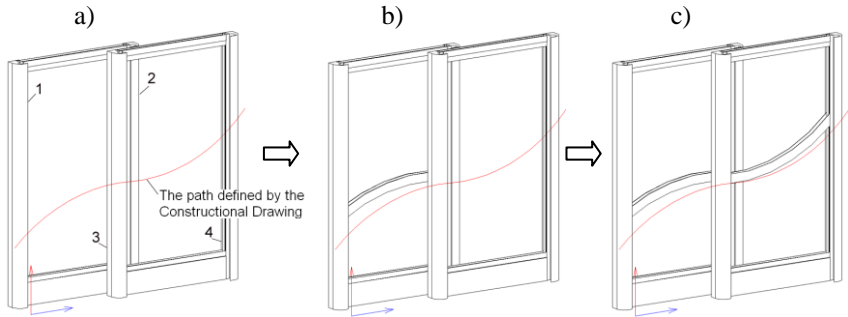

Fig. 3.31 Create profile between two profiles by drawn path.
The plane of a new Profile has to be parallel to plan of the Constructional Drawing. The path in the Constructional Drawing has to cross the paths of the base Profiles, see fig. 3.31 a), and it shouldn't have break points.
**Section <BRAUN_JOIN> *C / Select profile *E / Specify straight segment of Profile:* Specify the first base profile, see fig. 3.31 a), selection "1".
Specify straight segment of Profile: Specify the second base Profile, see fig. 3.31 a), selection "2"
Specify path by Constructional Drawings: Specify the path determined by Constructional Drawing, see fig. 3.31 a) and b).
To create an additional profile for the second door, you should repeat command and specify the profiles “3”, “4” and path in the Constructional Drawing. The construction result is presented in fig 3.31 c).